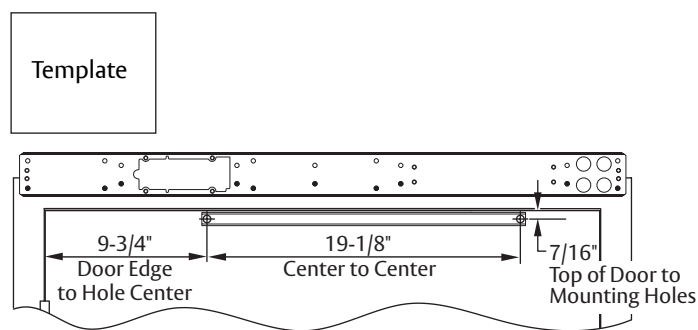

Figure 4
1. Measure and mark track mounting holes using template. (Figure 4)